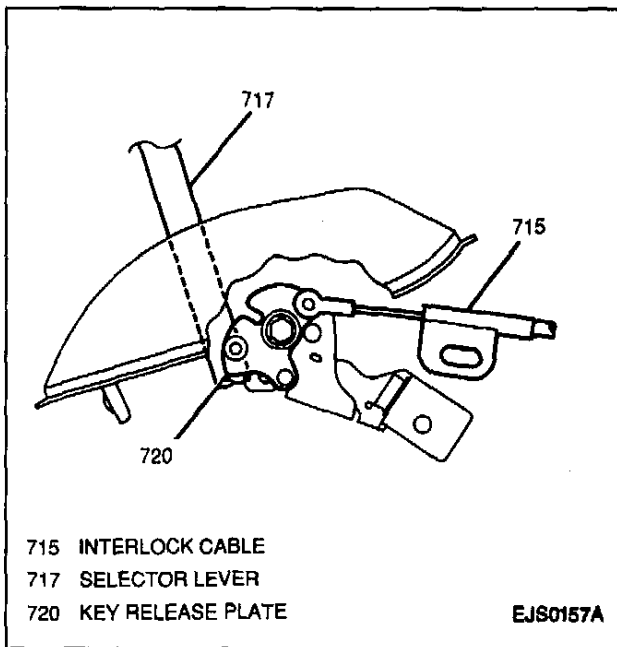

Figure 16—Interlock Cable at Manual Selector
5. Interlock cable nut (Figure 16).
6. Interlock cable end from key release plate at manual selector (Figure 16).
5. Interlock cable end to key release plate (Figure 16); secure to manual selector with interlock cable nut. Do not tighten fully.